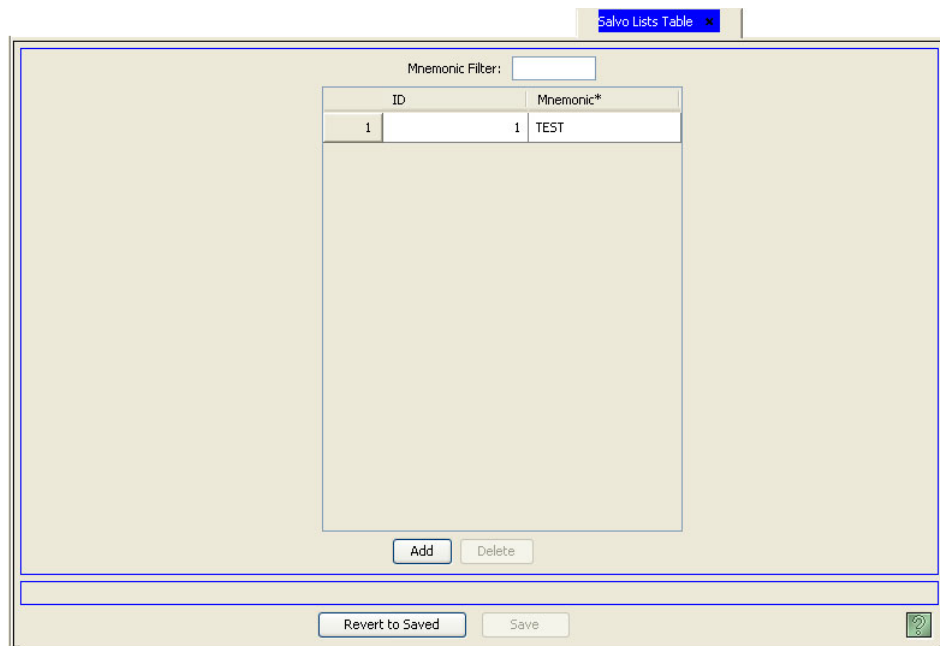

Figure 15-13. Salvo List Table
- 6 From the Navigation area, select the ‘Views’ pane and then ‘Salvo List’. The ‘Salvo List’ table appears, as shown in Figure 15-13.
- 7 Click Add. A blank row appears at the bottom of the list of salvos, as shown in Figure 15-13.